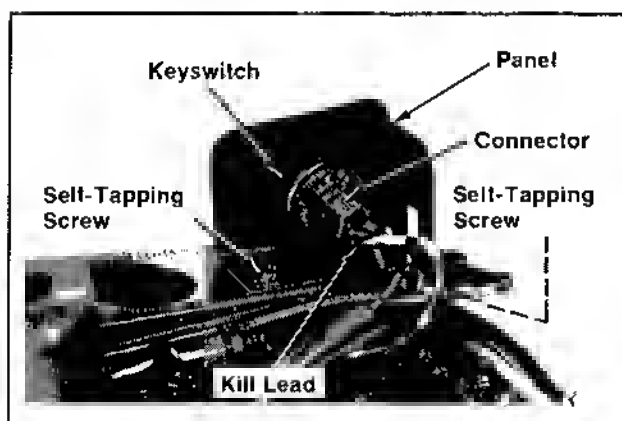

Figure 9-10. Removing Key Switch.
2. Remove the connector from key switch. Remove kill lead from connector. Remove the self-tapping screws and panel with key switch. Refer to Figure 9-10.